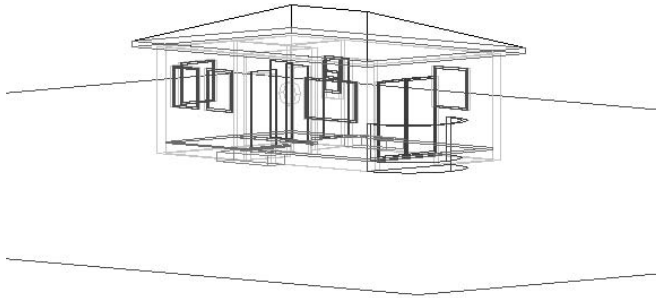

FIGURE A.27: A close view of the cabin after zooming in
10. Use a Zoom Window to bring the cabin in closer, as shown in Figure A.27.